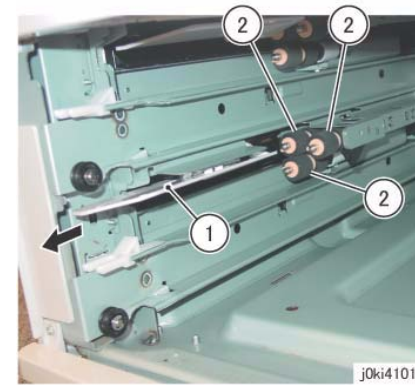

Figure 1 Remove the Tray 4 Feed/Retard/Nudger Rolls
4. Remove the Tray 4 Feed/Retard/Nudger Roll. (Figure 1)